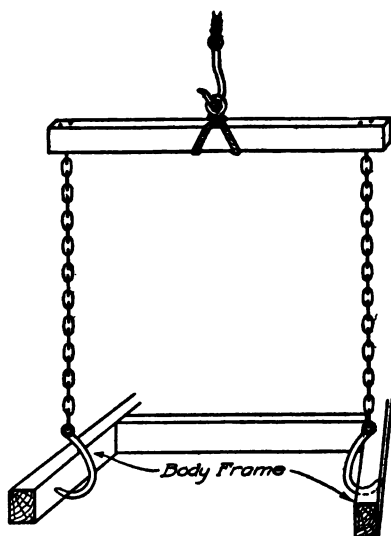

Fig. 46. Simple Automobile Frame Hoist
**Substitute for Jack.** A good substitute for a jack is a form of hoist, Fig. 46, which will pick up the whole rear end of the car at once. This not only saves time and work, but holds the car level while jacking one wheel does not. Moreover, with a rig of this kind